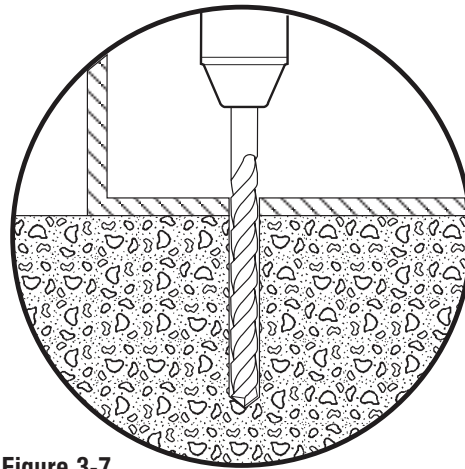

Figure 3-7
2. Using the floor clamp as a template, drill two (2) 1/2" diameter holes in the floor through the holes in the clamp. The holes must be at least 3-1/4" deep into the floor (not including the clamp). See Figure 3-7.